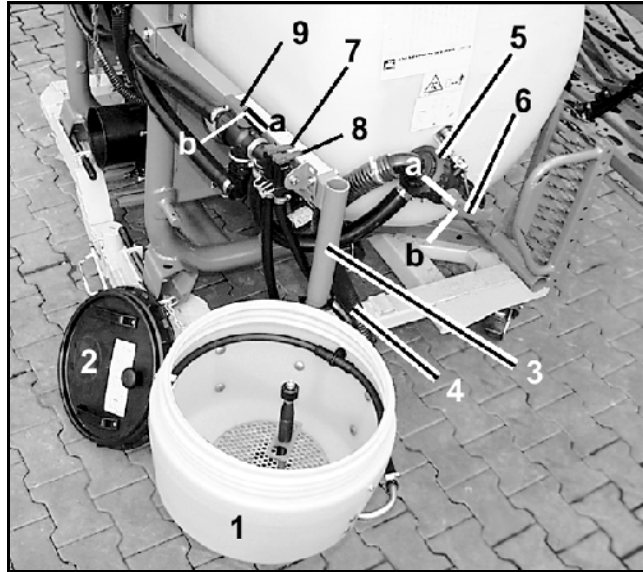

Fig. 164
- Swivel the three-way tap (Fig. 164/ 6) to position "a" and suck the spray agent rate off the induction bowl (before remove the lid of the induction bowl) (Before, remove the lid of the induction bowl.).
- Shut the single tap (Fig. 164/ 8) for the closed circular pipe line.
- Shut off three way tap (Fig. 164/ 6) (position "b").
- Shut off three way tap (Fig. 164/ 9) (position "b").
- Open single tap for (Fig. 164/ 8) closed circuit pipe line.
- Swivel three-way tap (Fig. 164/ 9) to position "a".
- Swivel three-way tap (Fig. 164/ 6) in position "a" and suck out the diluted agent spray rate. (Before, remove the lid of the induction bowl.)
- Shut the single tap (Fig. 164/ 8) for the closed circular pipe line on the tap group.
- **Before starting spraying operation dilute urea completely by pumping the spray cocktail around the tank. (Three way tap (Fig. 164/ 9 position "a") ). When diluting larger amounts of urea the spray cocktail's temperature will be drastically lowered so that the urea dilutes slower. The warmer the water is the faster and better the urea is diluted.**